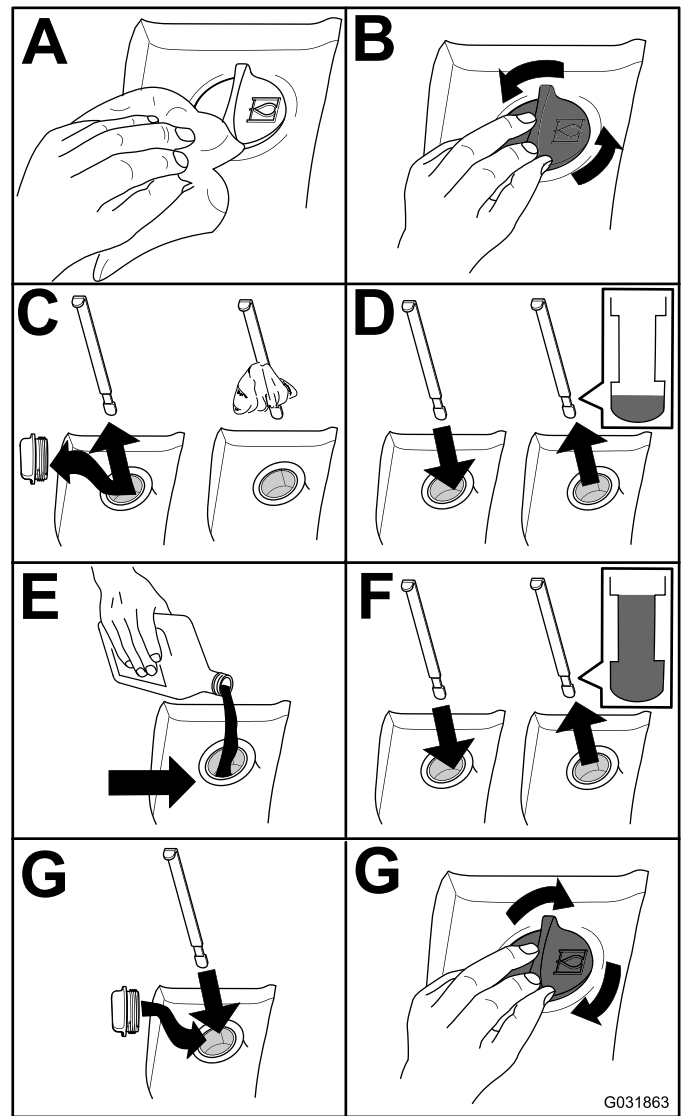

Figure 82
2. Check the hydraulic-fluid level (Figure 82).